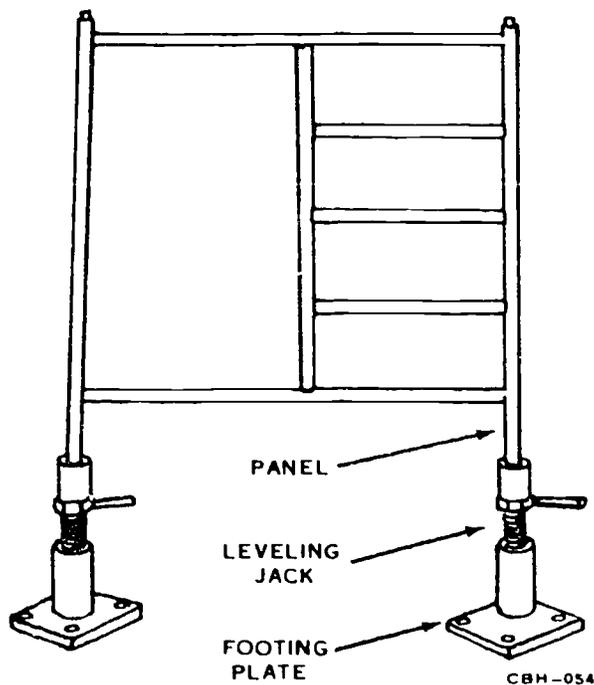

FIGURE 8. Install leveling jacks and panels into footing plates
- c. Install two panels into the leveling jacks which were installed into the footing plates, as shown in Figure 8.